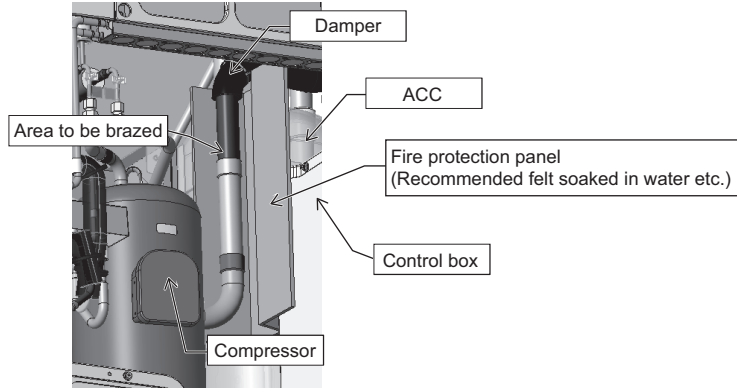

Figure 10
- (10) Tilting the compressor will cause the refrigerant oil to leak. Seal the pipe where it was cut or removed at the brazed section.
- (11) After replacing the compressor, protect the surrounding components such as the control box, ACC, compressor cover, and damper with a fire protection panel (e.g., recommended felt soaked in water), and perform brazing. (See Figure 10.)